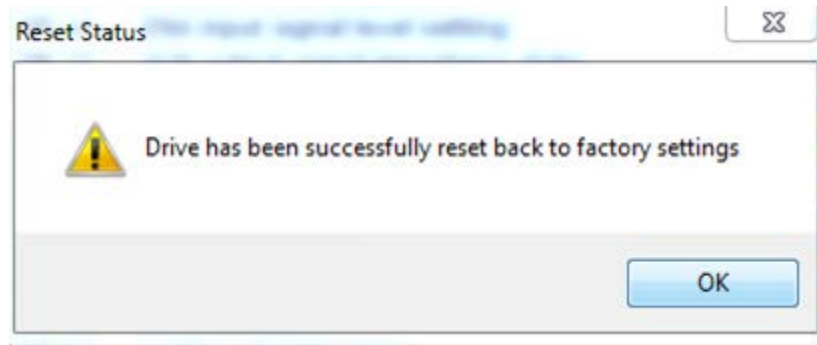

Figure 19: reset success message
- Click the “Yes” button to continue resetting process, or click “No” button to cancel. After resetting finished, the following informational message (Figure 19) will be displayed. Factory settings will take effect next time when the drive is powered next time.